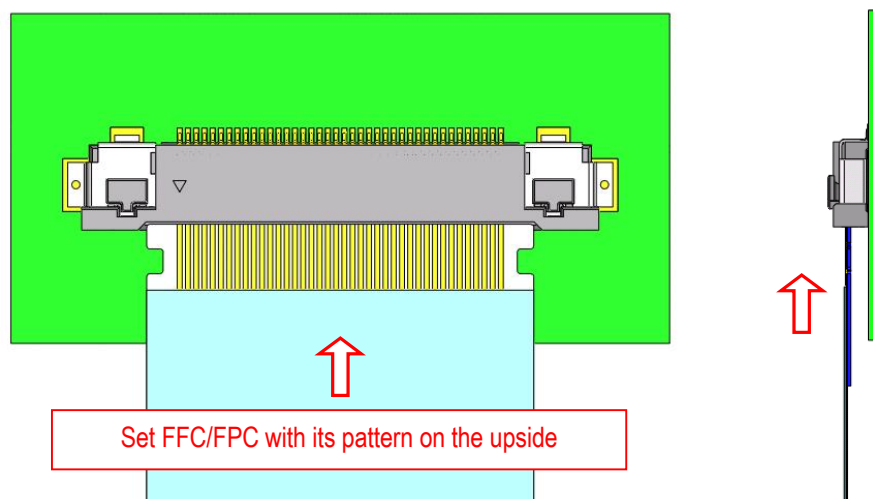

Fig. 2-1 FFC/FPC inserting method 1
- ① Please set FFC/FPC to the connector horizontally with its pattern on the upside as shown in Fig. 2-1